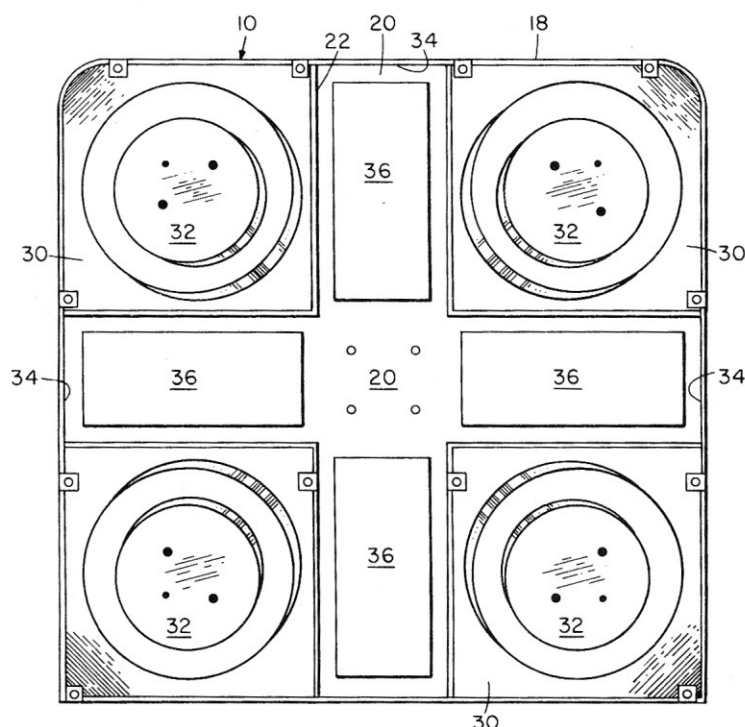

Figure 4. Top view of the platform with its top plate removed. Shown are the motors (32) and batteries (36).
The preferred design for the ambulator consists of a platform formed as an 18" x 18" x 5" rectangular box (figure 4). A chassis (18) is bolted within the platform. The wheel assemblies (A, B, C, and D) are mounted at each of the chassis' four corners. Connected to each wheel assembly is a DC reversible motor, which drives the wheel about its inclined axis of rotation.